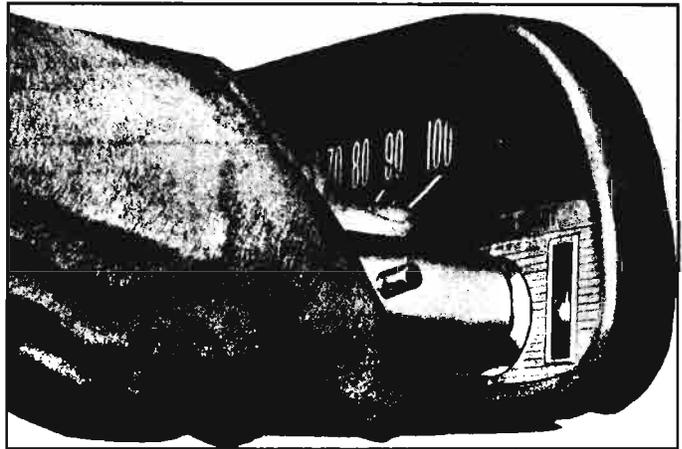

Fig. 8-65—Removing Ignition Switch Nut
3. Using suitable spanner wrench (Tool J-7607 or J-5893 by filing off inside of tangs), remove the front attaching nut (fig. 8-65).